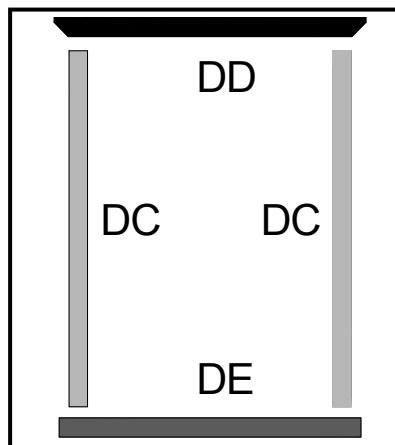

Fig B3
6. Layout parts **DC**, **DD** & **DE** as in fig B3